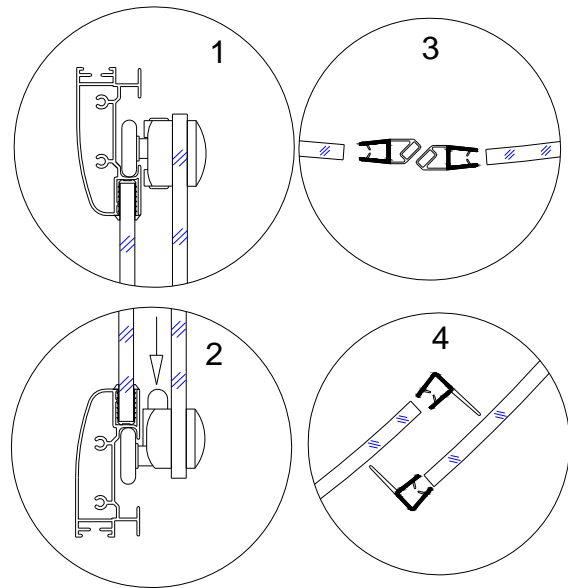

Fig 14
12. Secure the **Handles (8)** to the doors. Slide the top door wheels into the top guide rail and push the bottom wheels in the bottom guide rail by pressing down the button. Attach the magnetic strips to the glass doors. Use the Phillips screwdriver #2 (**do not use power screwdriver**) to adjust the upper wheels, make sure they move smoothly and the doors close tight. Then attach the **Anti-water strips (10)**. See Fig 14 for details.